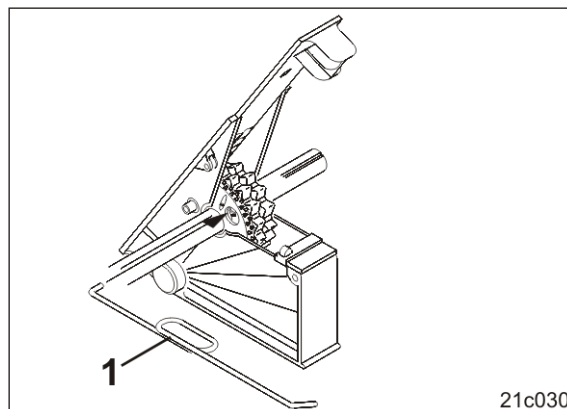

Fig. 163
1. Use the supplied key (Fig. 163/1) to press the pin into the normal seed metering wheel behind the hole until it reaches the stop.